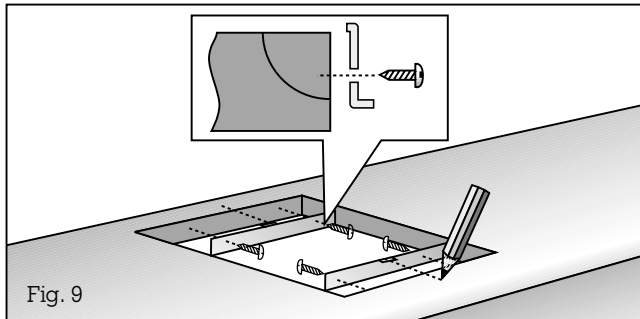

Fig. 9
- **Mark the centre of the recess exactly.** Secure the securing rails on the front and rear edges of the recess. Make sure that the lugs of the securing rails lie on the worktop and that the centre marking of the securing rails is precisely flush with the centre marking on the worktop (Fig. 9).